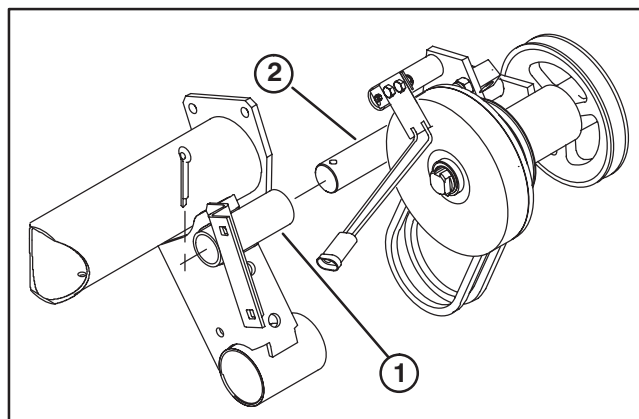

Figure 7
29. Align tightener bracket tube with frame mounting tube and slide pivot shaft through frame mounting tube (Fig. 7). Install cotter pin to other end of shaft.